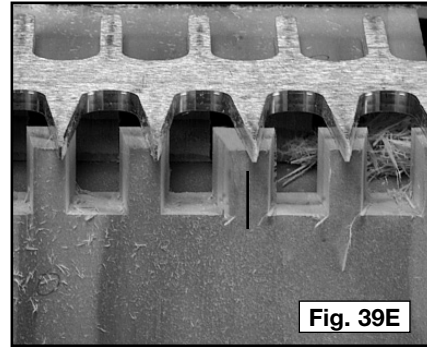

Fig. 39E
Step 5 - Start with the pin to the right of the mark and cut the rest of the pins to the right (Fig. 39E).